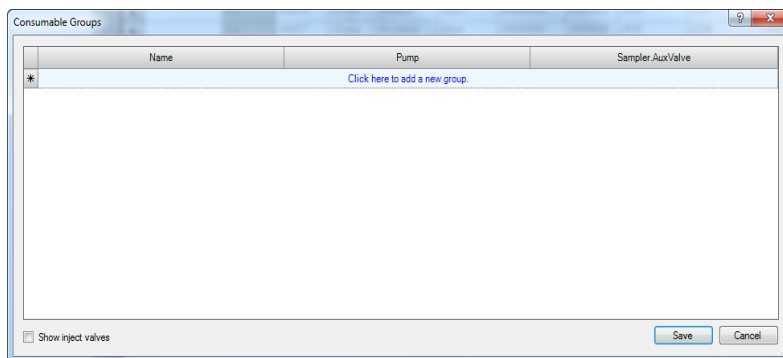

Figure 5-8. Consumable Groups Window
1. Click the **Groups** button near the bottom of the Consumables Inventory window. The Consumable Groups window appears (see Figure 5-8).